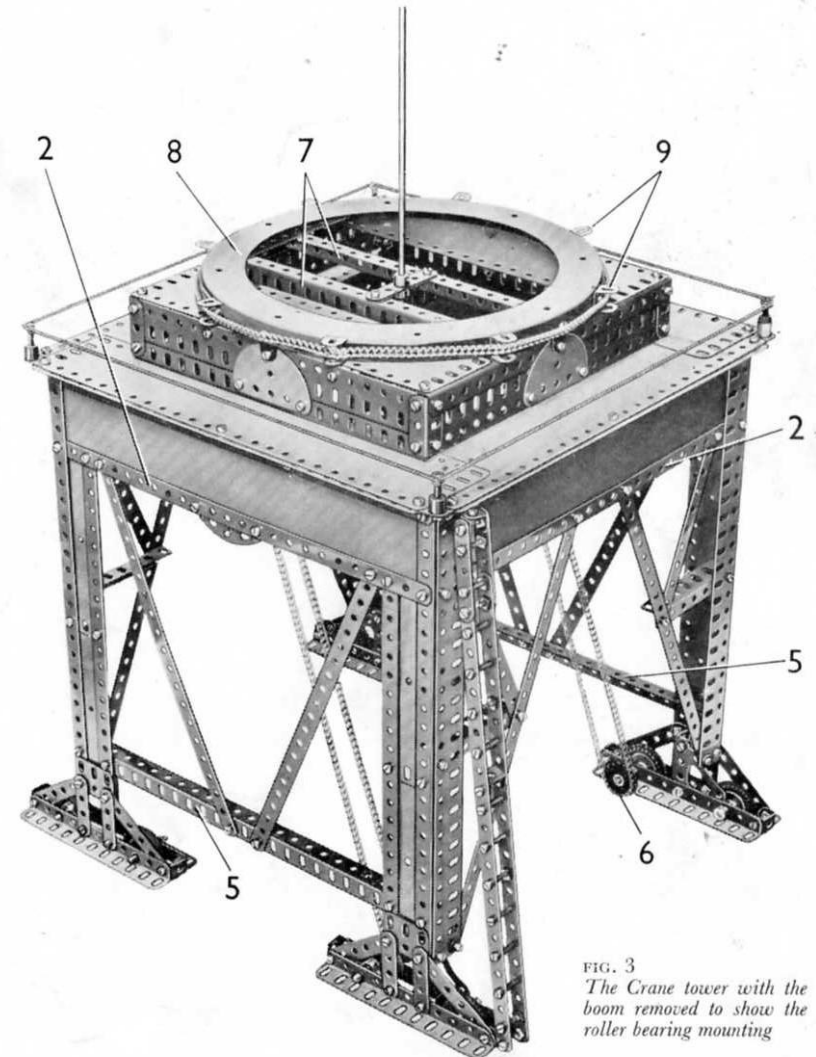
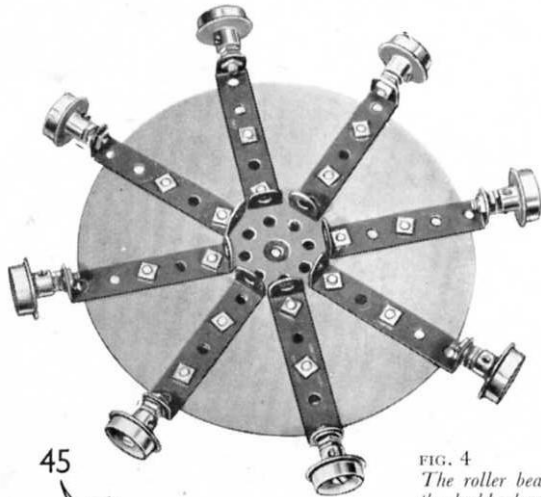

FIG. 3
FIG. 4
The legs are connected at their upper ends by  $12\frac{1}{2}$ "  $\times$   $2\frac{1}{2}$ " Strip Plates, which are edged by  $12\frac{1}{2}$ " Angle Girders (1) and  $12\frac{1}{2}$ " Strips (2). The joins between the ends of the Girders (1) are strengthened by  $1\frac{1}{2}$ " Corner Brackets bolted to the Girders, and a  $12\frac{1}{2}$ "  $\times$   $2\frac{1}{2}$ " Strip Plate is fixed to each of the Girders (1) as shown (Fig. 3). These Strip Plates are supported by  $12\frac{1}{2}$ " Angle Girders (3) bolted to the lugs of  $4\frac{1}{2}$ "  $\times$   $1\frac{1}{2}$ " Double Angle Strips fastened to two of the Girders (1). A  $5\frac{1}{2}$ "  $\times$   $3\frac{1}{2}$ " Flat Plate (4) is attached to the Girders (3).
Each side of the raised platform at the top of the tower is formed by a  $9\frac{1}{2}$ " Angle Girder and a  $9\frac{1}{2}$ " Flat Girder. These parts are connected at their ends by  $1\frac{1}{2}$ " Angle Girders, and two  $9\frac{1}{2}$ "  $\times$   $2\frac{1}{2}$ " Strip Plates and two  $9\frac{1}{2}$ " Angle Girders (7) (Fig. 3) are bolted across the square structure thus formed. The  $9\frac{1}{2}$ " Angle Girders of two of the sides are fixed to the top of the tower, and the  $9\frac{1}{2}$ " Flat Girders of the other two sides are connected to the top by  $3\frac{1}{2}$ " Angle Girders.
as shown (Fig. 4). Eight  $\frac{3}{4}$ " Flanged Wheels rotate freely on  $\frac{3}{4}$ " Bolts, each of which is fixed to the outer lug of a Double Angle Strip by two nuts. The Flanged Wheel is spaced from the lug by a Washer and a third nut on the Bolt. The Flanged Wheels are placed between the inner edges of the Flanged Rings (8) and (24) (Figs. 3 and 5).
together. A  $2\frac{1}{2}$ "  $\times$   $1\frac{1}{2}$ " Double Angle Strip is fixed to the top of one side, and two Angle Brackets are attached to the other side. The Angle Brackets and the lugs of the Double Angle Strip are used to connect the sides together. A Strip Coupling (Fig. 4) is held by a  $\frac{1}{2}$ " Bolt that secures also a large Loaded Hook placed in the slot of the Strip Coupling. Two 1" loose Pulleys (45), each with a Wheel Disc (6 holes) on one side and a Wheel Disc (8 holes) on the other side, are freely mounted on a  $\frac{3}{4}$ " Bolt, which is held in place by a nut.